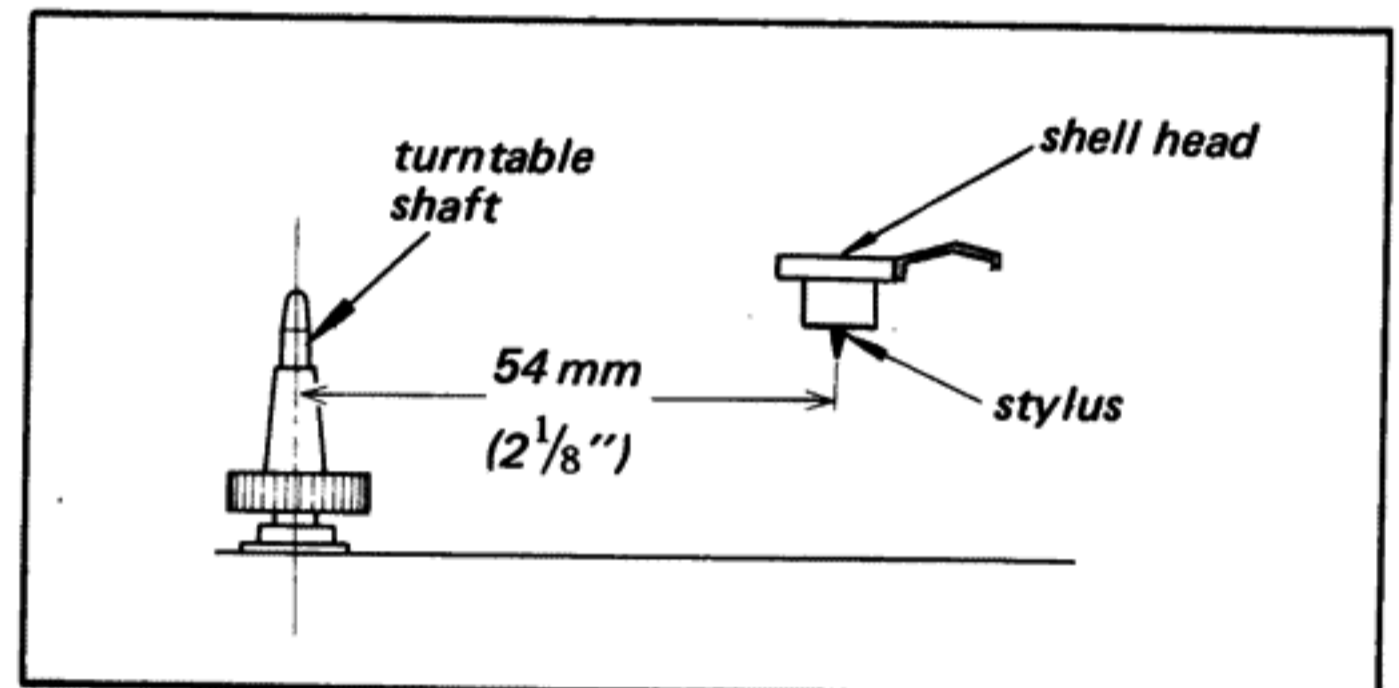

Fig. 3-10. Distance between turntable shaft and stylus
1. The stylus tip should be 54 mm ( $2\frac{1}{8}$ " ) away from the turntable shaft as shown in Fig. 3-10.